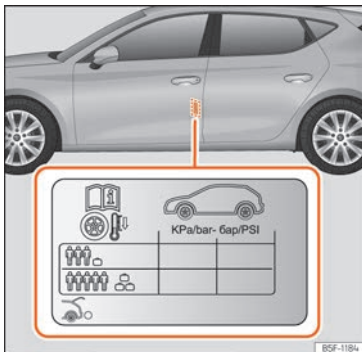

Fig. 242 Location of the tyre pressure sticker.
- Adjust tyre pressure to the load being carried by the vehicle »» Fig. 242.
The tyre inflation pressures are listed on a sticker on the rear of the front left door frame »» Fig. 242.
The tyre pressure must be adjusted according to the load the vehicle is carrying. If the vehicle is going to carry the maximum load, the tyre pressure should be increased to the maximum value indicated on the sticker »» Fig. 242.
In the case of a minimised temporary spare wheel (125/70 R16 or 125/70 R18), inflate to a pressure of 4.2 bar as indicated on the tyre pressure label »» Fig. 242.
- The driver is responsible for ensuring that all of the vehicle tyres are correctly inflated to the right pressure. The recommended tyre pressure is indicated on the label »» Fig. 242.
- When the tyres are cold, tyre pressure should be that indicated on the label »» Fig. 242.